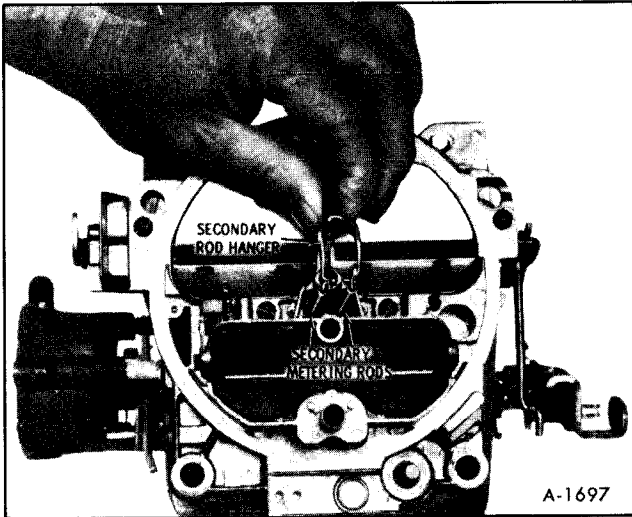

Figure 12-Secondary Metering Rods
4. Remove secondary metering rods by removing the small screw in the top of the metering rod hanger. Lift upward on metering rod hanger until the secondary metering rods are completely out of the air horn. Metering rods may be disassembled from the hanger by rotating ends out of the holes in the end of the hanger (See figure 12).